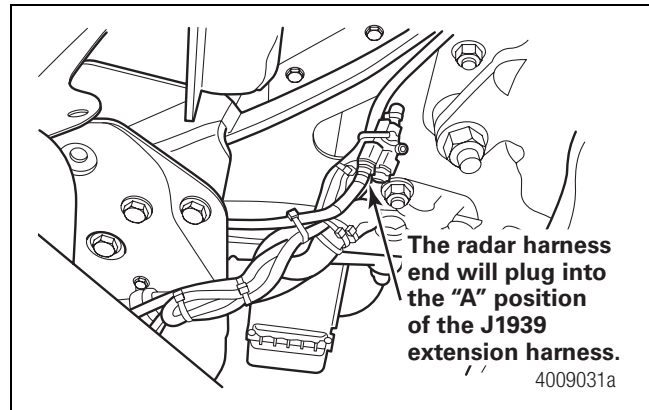
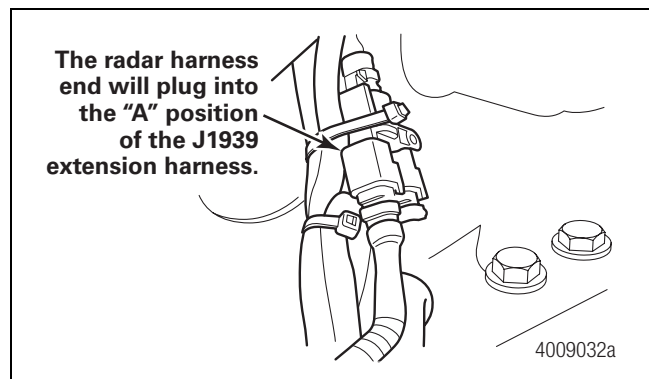

Figure 4.1
Figure 4.2
4. The radar harness end will plug into the "A" position of the J1939 extension harness. Figure 4.1 and Figure 4.2. The other end of the harness (radar power) will follow the crossmember towards the passenger side and will plug into the short radar power jumper harness coming from the center bulkhead connector.